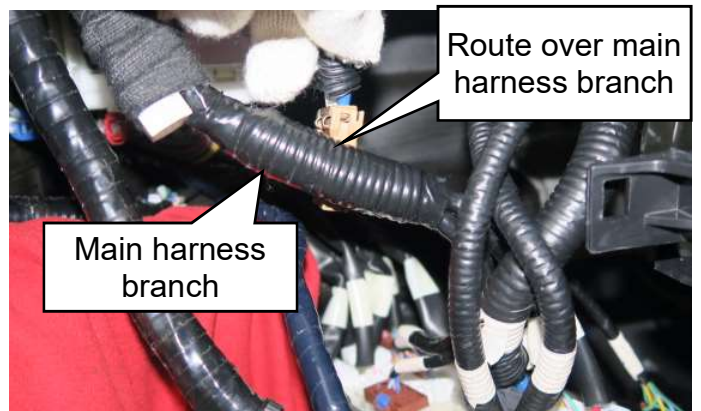

Figure 16
- Route the harness over and behind the harness branch as shown in Figure 16